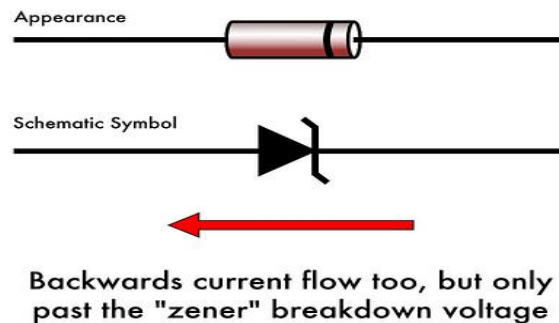

Figure 1.11: Symbol of Zener diode
b. Zener Diode: It is a diode which allows current to flow in the forward direction in the same manner as an ideal diode. It also permits the current to flow in the reverse direction when the voltage is above a certain value known as the break down voltage/ "Zener knee voltage"/ "Zener voltage"/ "avalanche point"/ "peak inverse voltage" denoted by V_Z . The symbol for Zener diode is shown in Fig. 1.11.